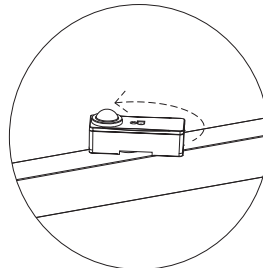

Fig. 3
- 3.Rotate the sensor and align its edge to receptacle to ensure that it's installed securely.(Fig. 3 & Fig. 4)